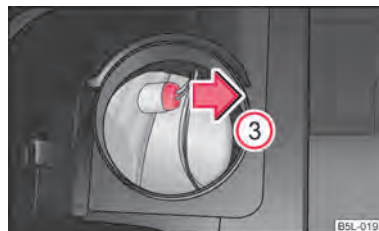

Fig. 183 Removing the fixture for the parking light (Xenon headlight)
- Pull out the fixture in direction of arrow ③ ⇒ fig. 183.